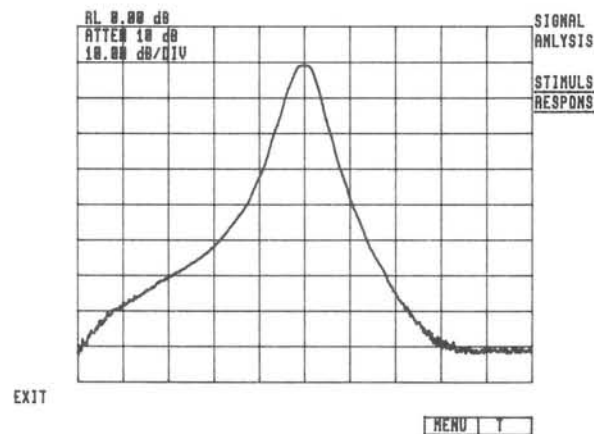

Figure 1-40.
◀ STIMULS RESPON ▶ is active when underlined as in Figure 1-40. When active, **◀ STIMULUS RESPON ▶** activates the stimulus-response auto sweep time (which is typically valid for devices when the system's span is less than 20 times the bandwidth of the device).
Activating **◀ STIMULS RESPON ▶** and either of the math function softkeys (**◀ A - B --> A ▶** or **◀ A - C --> A ▶**), activates *relative amplitude mode*. When the system enters relative amplitude mode, the reference level is set to 0 dB and the following functions are displayed in dB units: amplitude unit conversion (AMPU), display line (DL), measurement unit conversion (MEASU), marker amplitude (MK), reference level (RL), threshold (TH), and trace data input/output (TRA/TRB/TRC). For example, the reference level in Figure 1-40 is set to "RL 0.0 dB." (For more information, see "MEASURE" in the HP 71000 Language Reference.)